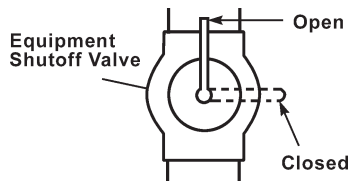

Figure 14-Equipment Shutoff Valve
3. Check all joints from gas meter to equipment shutoff valve (see Figure 14). Apply mixture of liquid soap and water to gas joints. Bubbles forming show a leak.
1. Open equipment shutoff valve (see Figure 14).